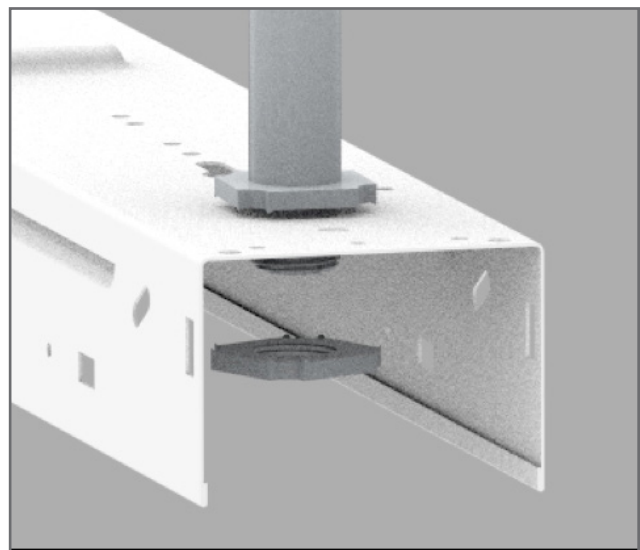

FIGURE 10
4. Insert the end of the stem into the knockout and fasten in place with a nut on each side of the housing, as shown in Figure 10.